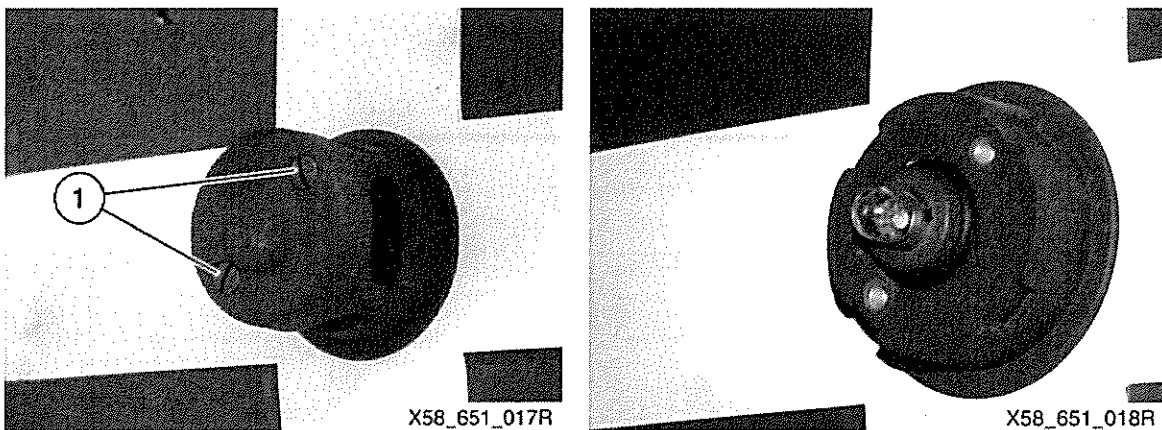

Fig 25 Fitting the convoy light
63.2 Refer to Fig 25. Remove the mounting bolts (1) and remove the lamp housing.